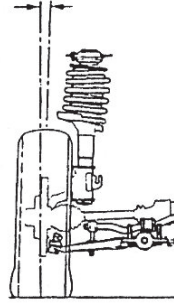

Fig.1-5 Camber Angle
1.2.2.1 Wheel camber (Fig. 1-5)